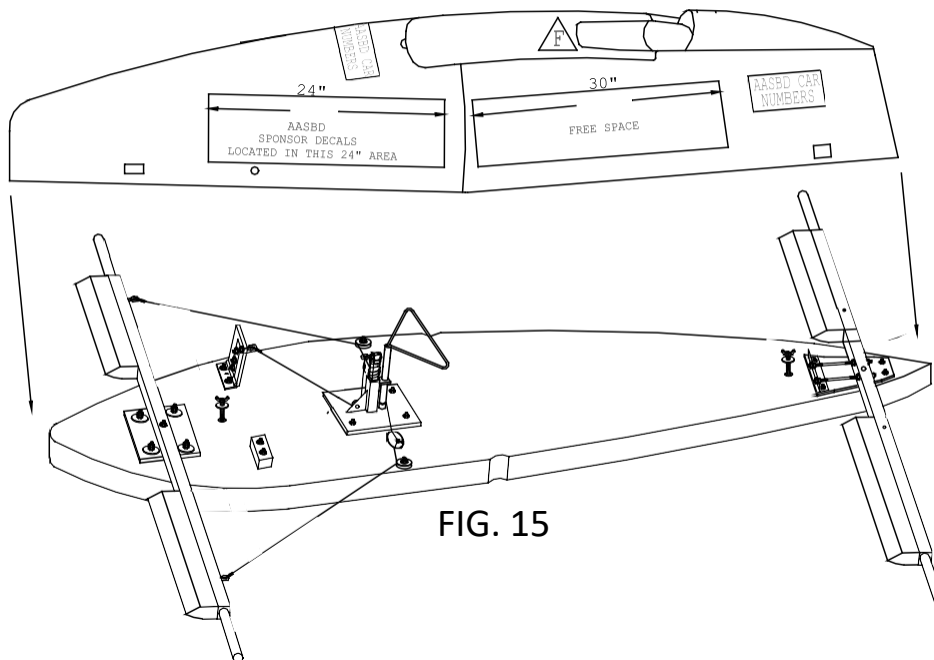

FIG. 15
- a. Decals will be placed in the area located 2" above the bottom of the floorboard, not covering any screws attachment and continue up 10" toward the top of the race car. This area will begin at the front of the hatch and continue forward for 24". See Figure 15.
- a. The car sponsor, local sponsor, race city, and driver's name can be placed on the left and right side of the racer. This area will be 30" in length and placed below the hatch opening. The car sponsor, local sponsor, race city, and driver's name are not mandatory decals; however, if you wish to have them on the car and would not like them covered in any way by mandatory decals, the cockpit area is the guaranteed free space. Race city name is mandatory at the All-American race on championship cars. See Figure 15.
The AASBD decal must be placed on both sides of the car in the AASBD sponsor decal section. See figure 15.